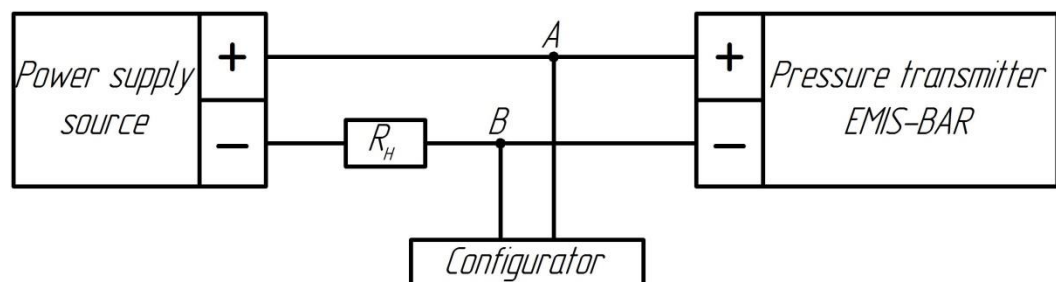

Figure 18 – Connection of HART transmitters
2.4.1 Figure 18 shows a simple communication network with transmitter connected in series in a current loop via a two-wire line.
2.4.4. If "point-to-point" scheme is applied (see fig.18, 19), the main variable can be transferred in both analog and digital form. For multipoint scheme, analog data is not available and variable transferred only in digital form.